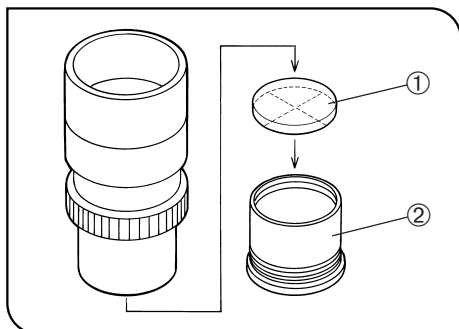

Fig. 25
4 Using Eyepiece Micrometer Disks (Fig. 25)
Following Fig. 25, remove the micrometer mounting frame ② from the eyepiece and place a micrometer disk ① into the mounting frame.